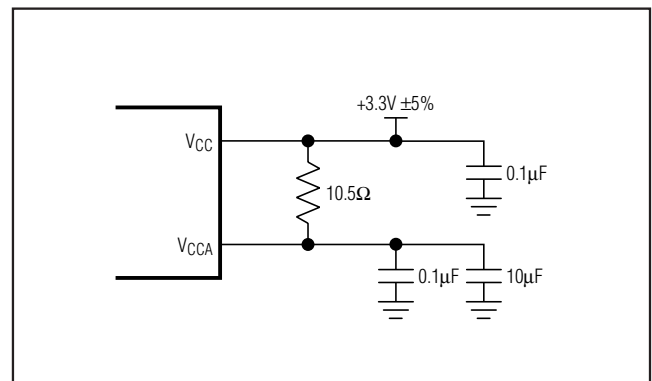

Figure 2. Analog Supply Filtering
**Note 1:** A series resistor of up to  $10.5\Omega$  is allowed between  $V_{CC}$  and  $V_{CCA}$  for filtering supply noise when system power-supply tolerance is  $V_{CC} = 3.3V \pm 5\%$ . See Figure 2.
The MAX3679A is a mixed analog/digital IC. The PLL contains analog circuitry susceptible to random noise. In addition to excellent on-chip power-supply noise rejection, the MAX3679A provides a separate power-supply pin,  $V_{CCA}$ , for the VCO circuitry. Figure 2 illustrates the recommended power-supply filter network for  $V_{CCA}$ . The purpose of this design technique is to ensure clean input power supply to the VCO circuitry and to improve the overall immunity to power-supply noise. This network requires that the power supply is  $+3.3V \pm 5\%$ . Decoupling capacitors should be used on all other supply pins for best performance.